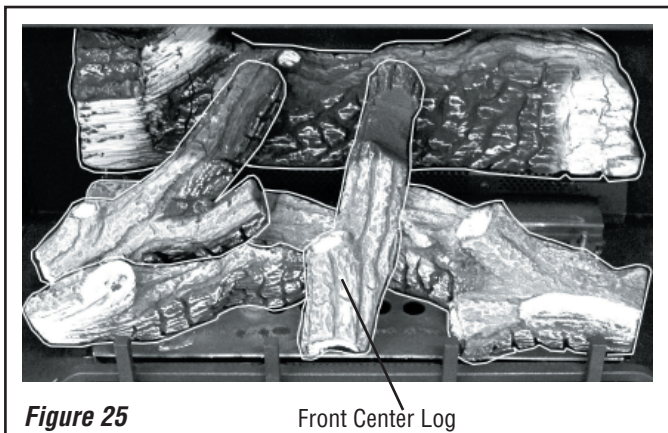

Figure 25
6. Install the Front Center Log over the Front Right Log. The front of log will rest on the burner and the back of log will rest on rear log as shown in Figure 25.